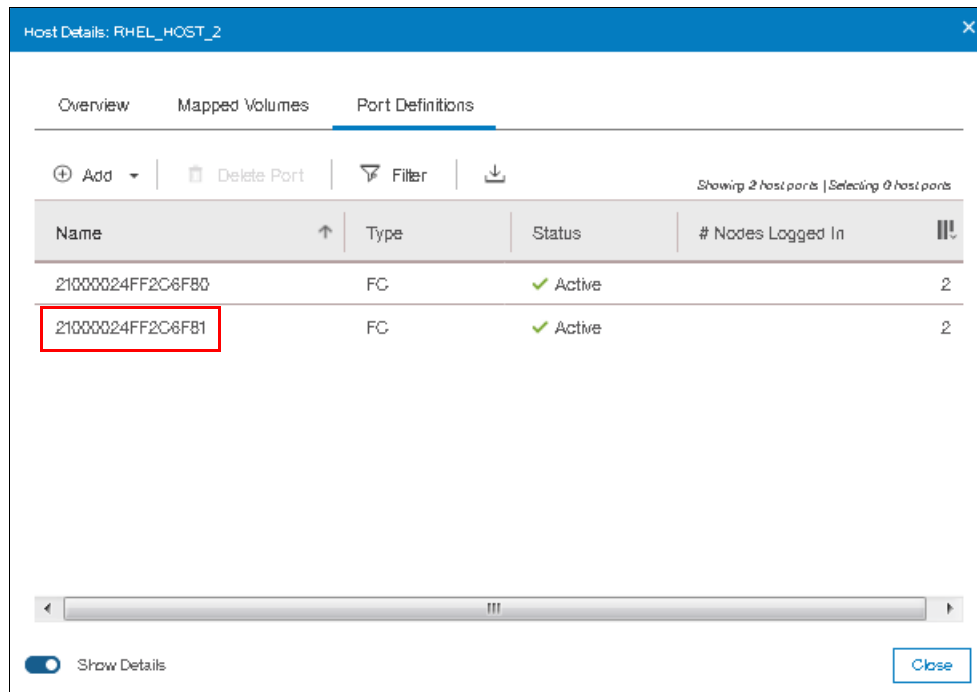

Figure 8-36 Port Definitions after adding a port
7. The Host Details window will now show the ports defined for the host, including the recently added one as shown in Figure 8-36 on page 371.